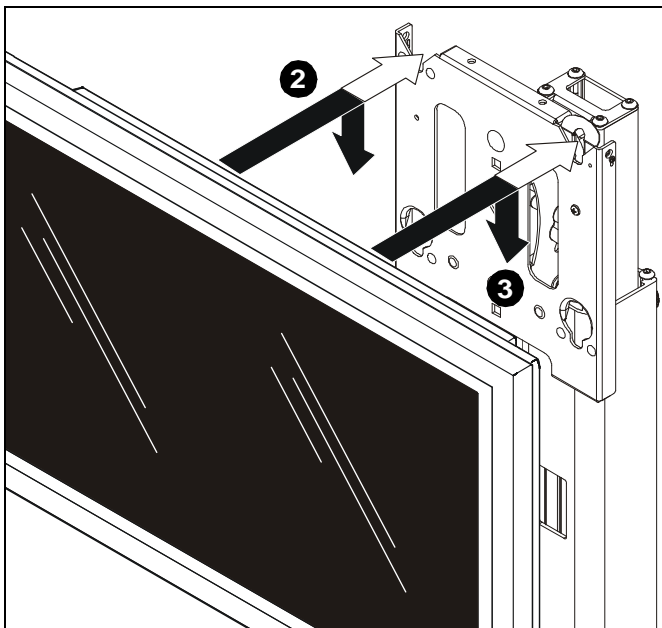
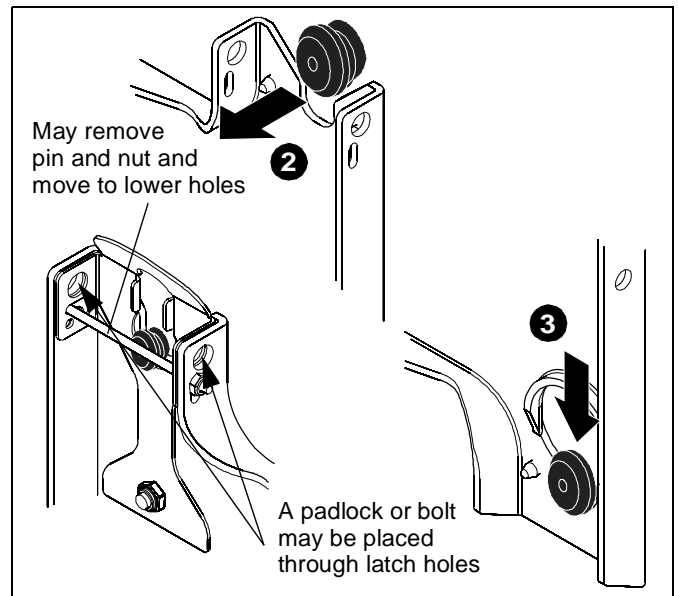

Figure 9
Figure 10
2. While supporting both sides of display, align four mounting buttons on interface bracket with four mounting holes in head assembly. (See Figure 9) and (See Figure 10)
3. Lower display into place listening for audible "click" to ensure recessed area of mounting buttons are properly seated in lower area of mounting holes. (See Figure 9) and (See Figure 10)
NOTE: Holes are provided in the faceplate for use with a padlock or similar locking device, if desired. In addition, the pin and nut may be removed from the upper holes and moved to the lower holes for use as a more permanent locking device. (See Figure 10)